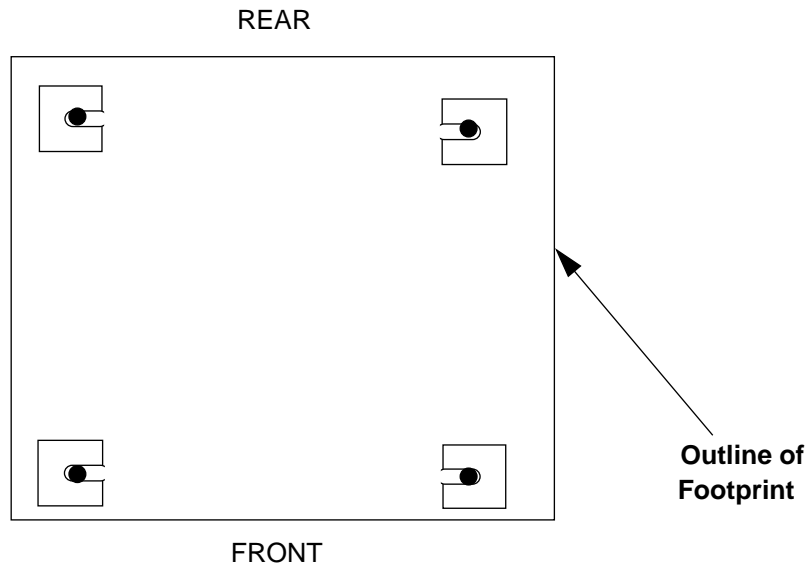

Figure 4: Placement of Zone 4 Earthquake Shims
6. If your site has Earthquake Zone 4 requirements, place the 1 and 1/8 thick shims around the drill holes as shown in Figure 4.
1. Verify that the shims are still in place as shown in Figure 4